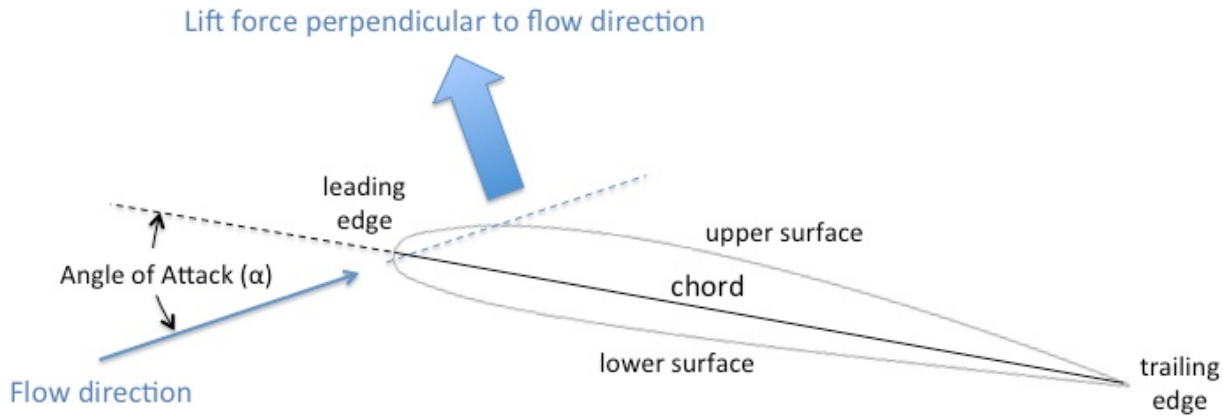

Figure 2: Relationship between flow direction and lift direction
1. Computing the chord length (see Figure 2) as the distance from the leading edge to the trailing edge of the airfoil. The chord length will later be used to non-dimensionalize the airfoil geometry.